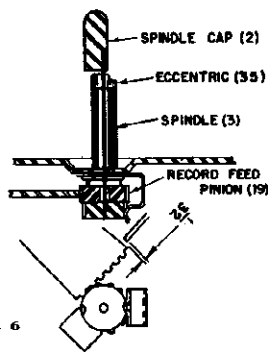

FIGURE 6
Check for bind in Spindle Assembly (See Figure 6). Disassemble Index Collar (22) and Record Feed Pinion (20), remove Spindle Cap (2), Eccentric (35) and eccentric rod. Check for freeness and remove binds.
(c) The Feed Sector Lever (19) must mesh with the Record Feed Pinion (20) as shown in Figure 6.
Check meshing of Feed Sector Lever (19) with Record Feed Pinion (20). Reset as shown in Figure 6.